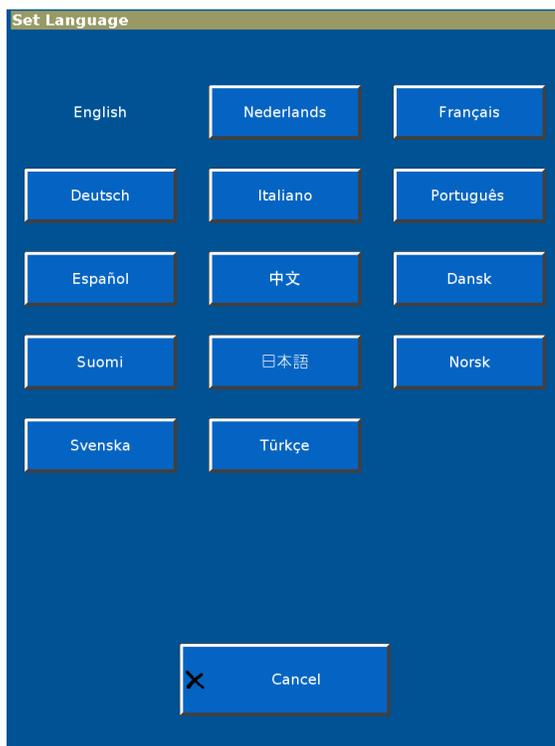

Figure E-3: Set Language screen 1
1. From the System Settings screen, select Language to display the Set Language screen (Figure E-3).